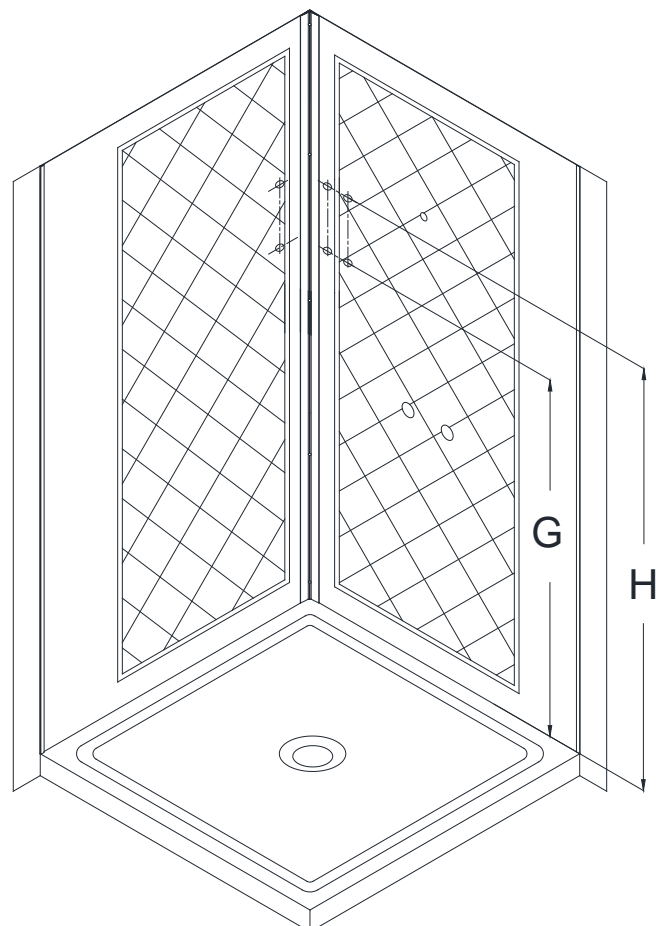

Fig. 20
See Fig. 20 for details.
18. Mark the location for the **Shelf brackets (04)** according to the measurements in Fig. 20 and Fig. 21.1.